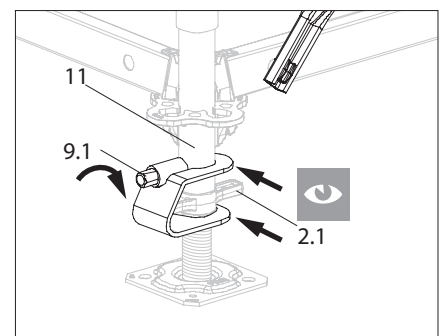

Fig. A1.11b
2. Tighten the spindle locking with the screw (9.1) in the hole of the vertical (11). (Fig. A1.11b)